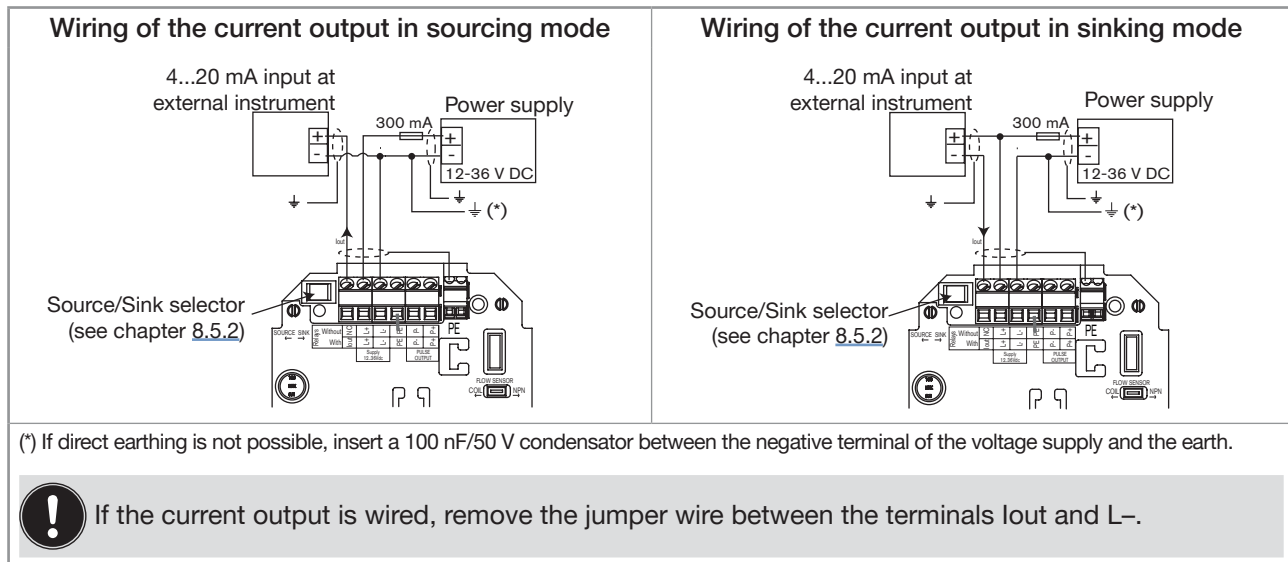

Fig. 42: Wiring, in sourcing or sinking mode, of the current output of a 12...36 V DC version, with relays, with cable glands
- Wire the current output according to Fig. 42.